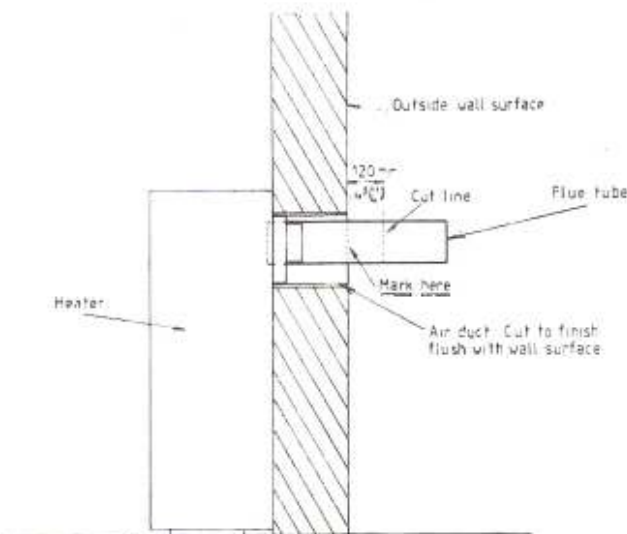

Fig. 3
- 7.10 Mark the air duct for the correct length, i.e. to finish flush with the outside wall surface. See Fig. 3. Remove the air duct after marking.
- 7.13 Mark the position of the outside wall surface onto the flue tube (see Fig. 3).